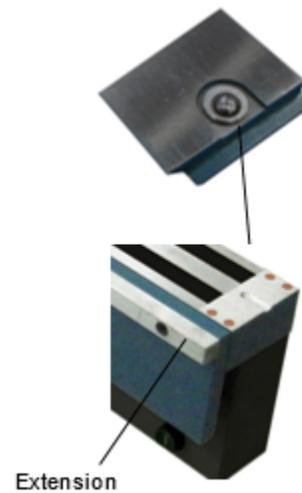

Figure 8-1
1. If you are using the clamp bars with the lifting balls, make sure they are both properly seated in the pockets of the workbench. (fig. 8-1)